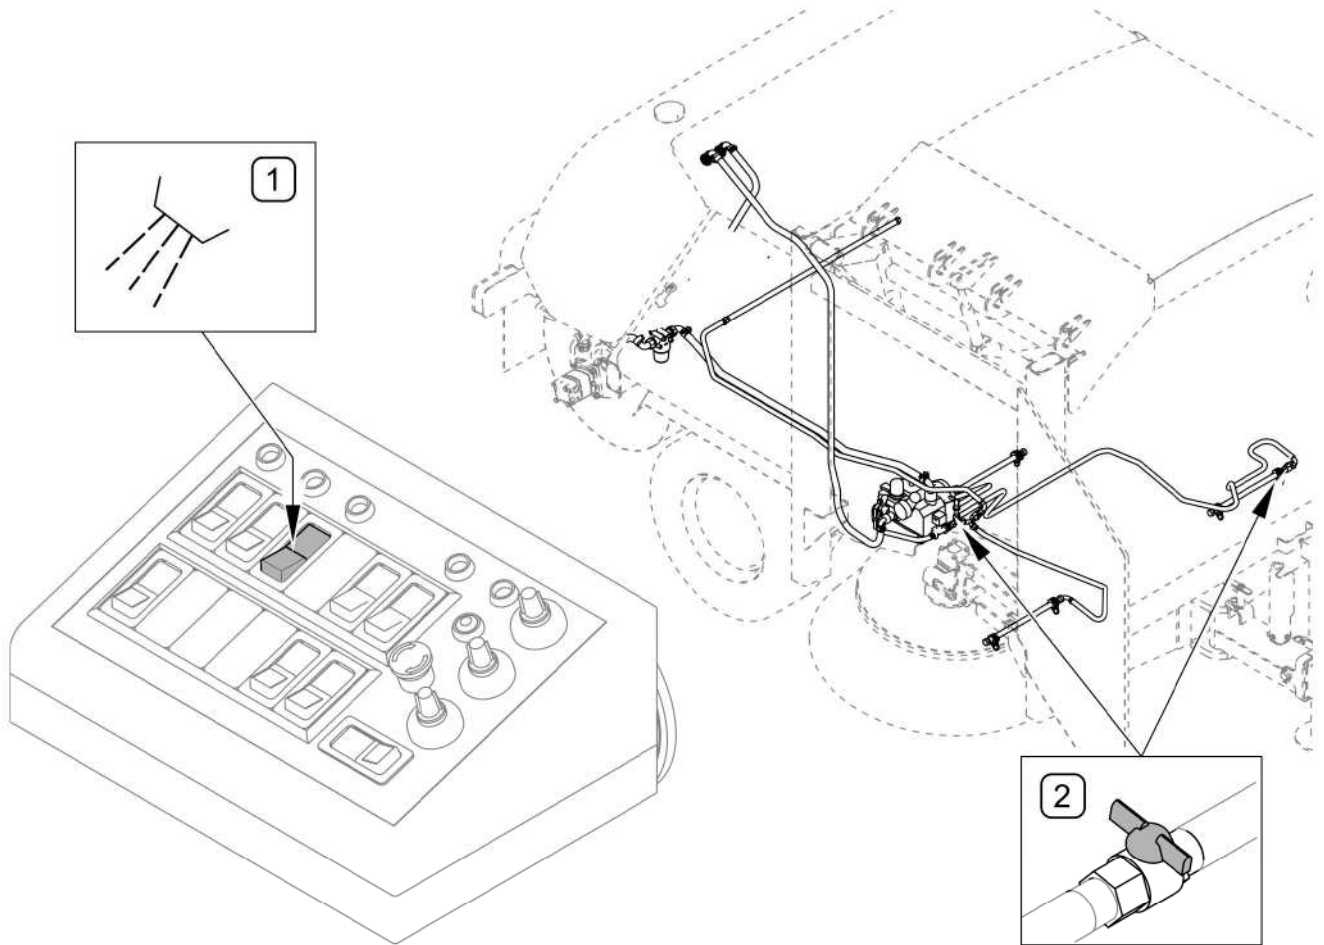

FIG. 4.12 Sprinkler system control
(1) - drawbar control switch; (2) - tilting drawbar; (A) - drawbar is locked; (B) - drawbar is unlocked
In case of intensive dusting, switch on the sprinkler system by means of switch (1) on the control panel (FIG. 4.12). The sprinkler system can be switched on after activation of the sweep unit. It is possible to switch off some of the sprinklers by means of valves (2).